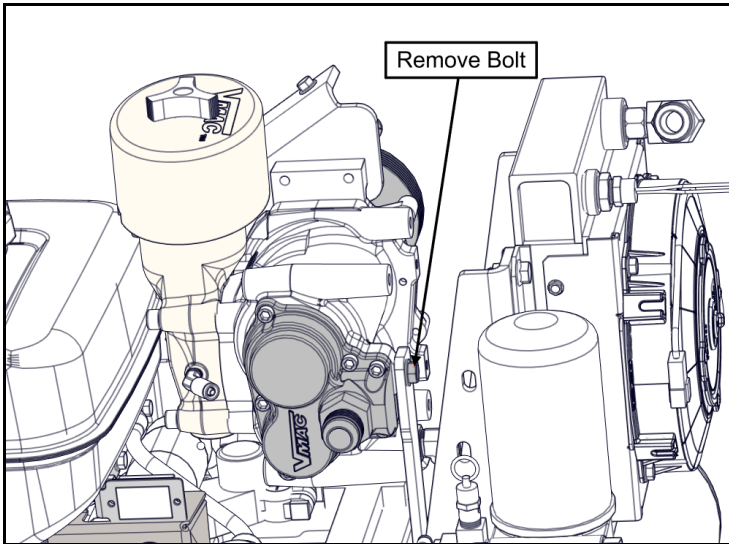

Figure 70 – Compressor side bolt
- 6) Remove the bolt from the side of the compressor (Figure 70).